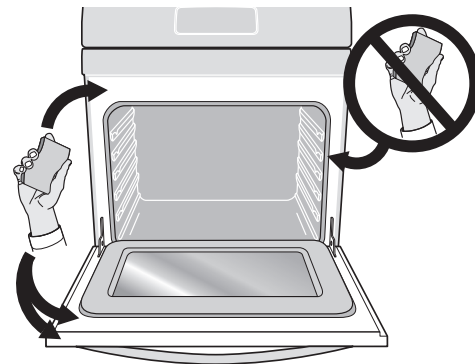

Figure 24: Cleaning around oven gasket
- Do not clean the oven door gasket. Take care not to rub, damage, or remove the gasket or use any cleaning substances on the oven door gasket (Figure 24). Doing so could cause damage and reduce the efficiency of the oven's performance.
- Clean any soil from the oven frame, door liner outside the oven door gasket, and the small area at the front center of the oven bottom with soap and water (See Figure 24).